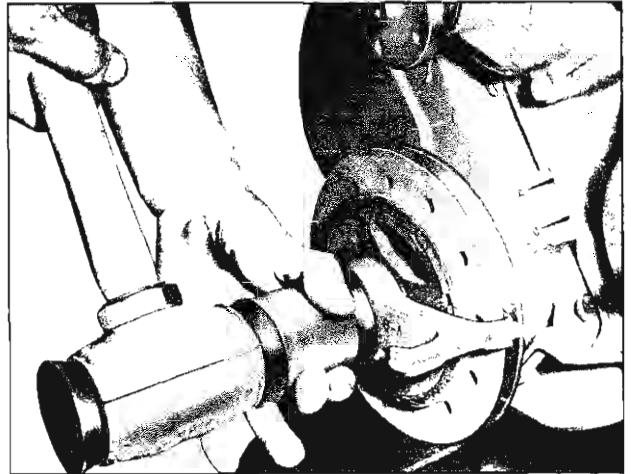

Fig. 27—Installing Harmonic Balancer
2. Attach balancer installer Tool J-8792 to balancer as shown in Figure 27.